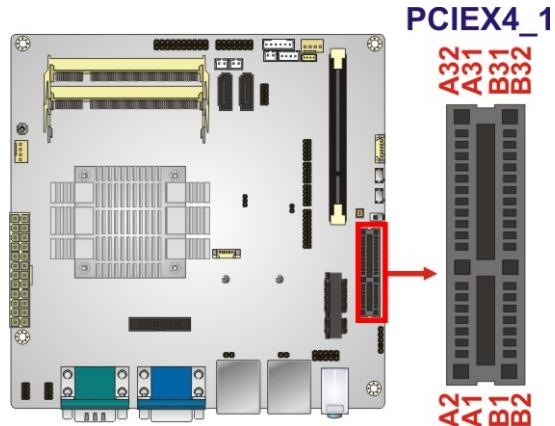

Figure 3-16: PCIe x4 Slot Location
**CN Location:** See Figure 3-16